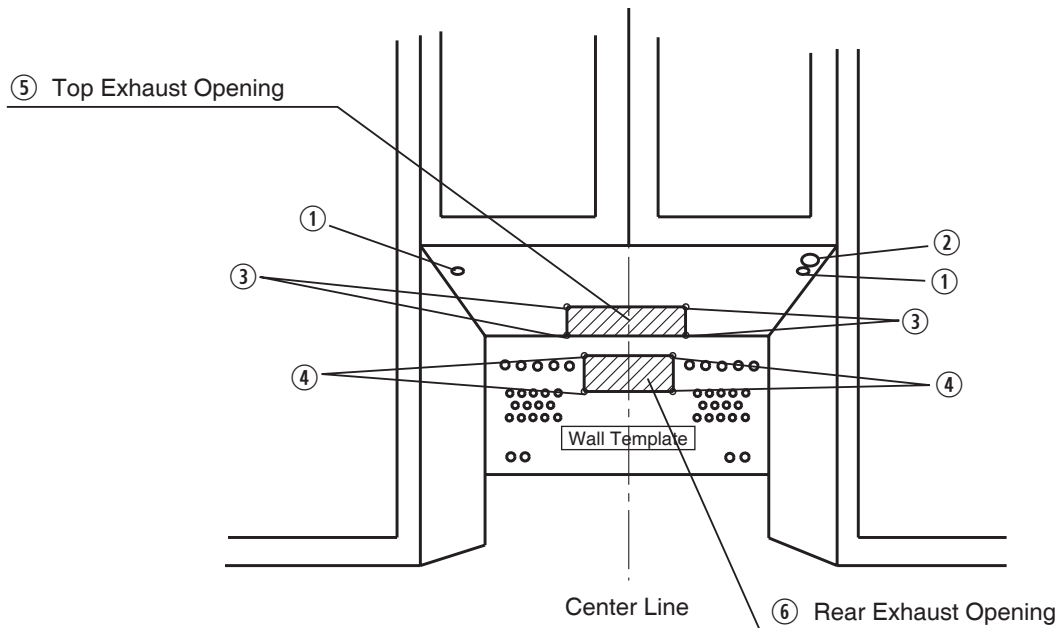

Fig. 2-1
- 2-1. Draw a vertical center line on wall and a center line of the cabinet. (Fig. 2-1)
- 3-1 Drill 3 pilot holes at the center point (No.① and No.② in Fig. 2-1)
If Top Exhaust application is chosen, you will need 4 more pilot holes. (No.③ in Fig. 2-1)
If Rear Exhaust application is chosen, you will need 4 more pilot holes. (No.④ in Fig. 2-1)
- 3-3 Drill two 1/2" holes from the No.① pilot holes. Drill a 1 3/16" hole from the No.② pilot hole for AC cord.
- 3-4 If Top Exhaust application is chosen, you will need to cut the Top Exhaust opening. (No.⑤ in Fig. 2-1)
If Rear Exhaust application is chosen, you will need to cut the Rear Exhaust opening. (No.⑥ in Fig. 2-1)
**Note:** If Rear Exhaust is chosen, the product need a Rear Wall Exhaust cutout opening for the Rear Wall duct and the Exhaust adaptor must be installed on the bracket (hardware item ⑥) with two screws. (hardware item ⑤) (Fig. 2-1).
4. Pass AC cord through kitchen cabinet hole. (No. ② in Fig. 2-1)